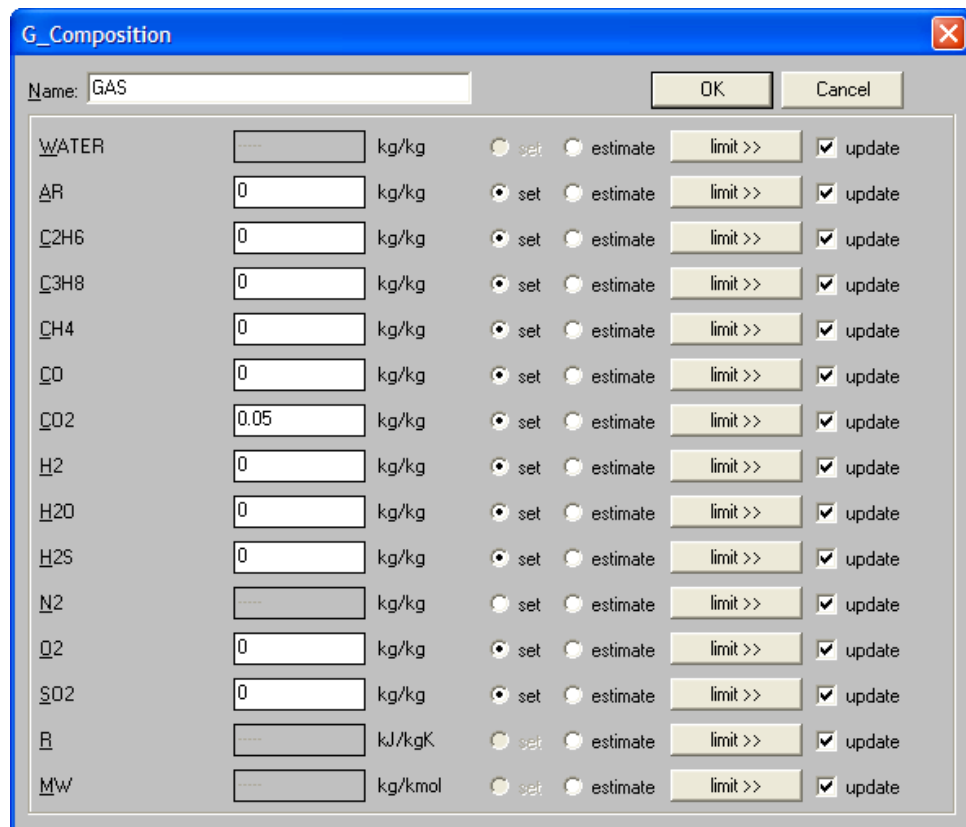

Fig. 4.5: Defining the composition for a G_Stream
2. Select the entry **GAS(G_Composition)** and click on the **Edit >>** button. PSE opens the data window of the composition, as shown in figure 4.5.